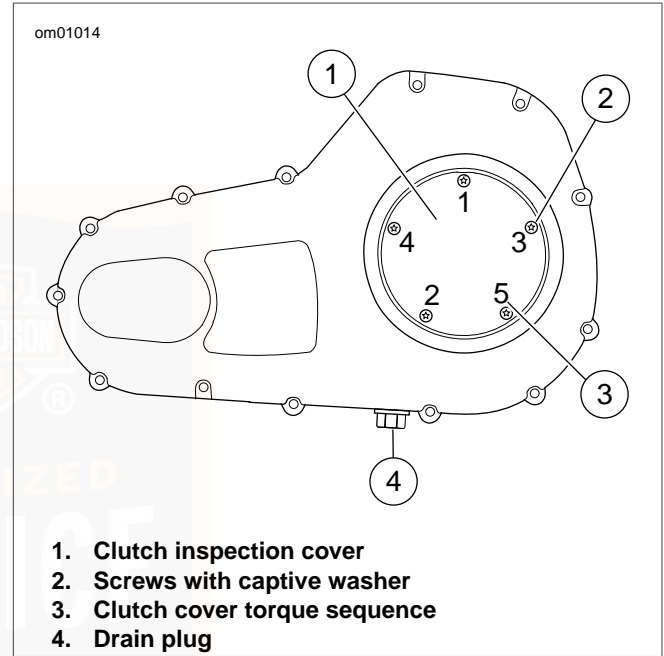
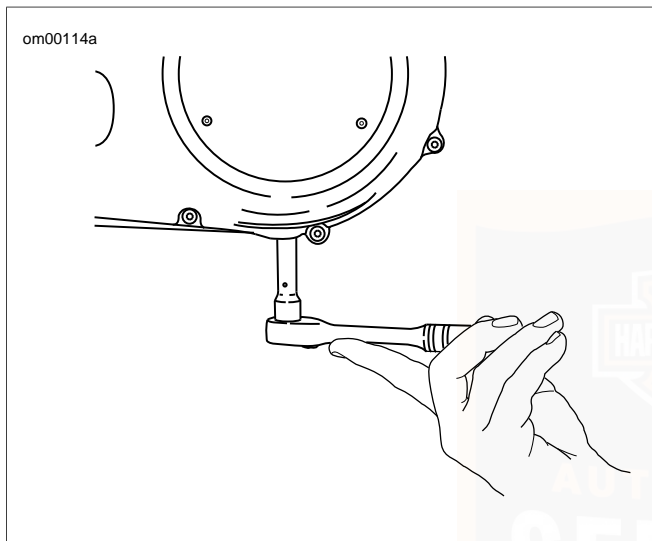

Figure 53. Primary Chaincase Cover
Figure 55. Removing Chaincase Drain Plug
3. See Figure 53. Remove five screws (2) (with captive washers) to free clutch inspection cover (1) from primary chaincase cover.
2. See Figure 53 and Figure 55. Remove magnetic drain plug at bottom of primary chaincase cover. Drain lubricant into suitable container.
- e. Tighten screws to 84-108 **in-lbs** (9.5-12.2 Nm). Follow torque sequence shown in Figure 53.